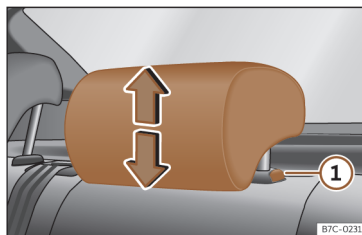

Fig. 97 Rear headrest: adjusting the headrest.
- Grab the sides of the headrests with both hands and push upwards to the desired position. To lower it, repeat the same action, pressing the button on the side ① >>> **Fig. 97**.